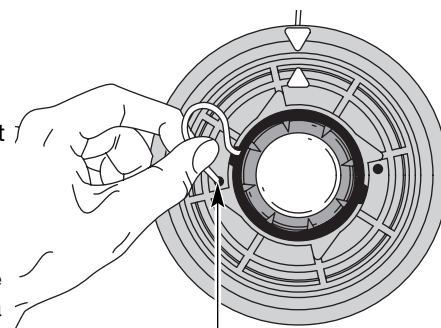

Fig. 19
5. Insert the line into the locking hole (Fig. 19). Do not push the line more than a 1/2 inch (12.7 mm) into the line locking hole.
- The line will form a small loop (Fig. 19) when it is inserted correctly.